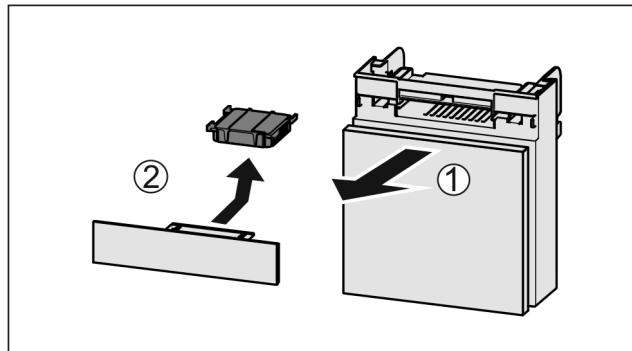

Fig. 132
- ▶ Pull out the compartment Fig. 132 (1).
- ▶ Remove the carbon filter Fig. 132 (2).